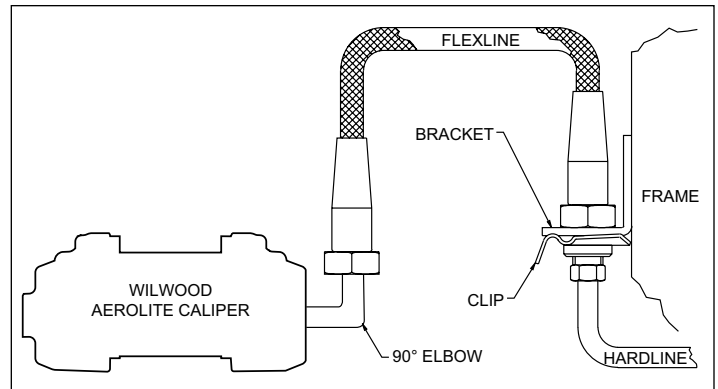

Figure 4. Brake Line Diagram
- **NOTE:** The caliper in this brake kit utilizes a 1/8-27 NPT pipe thread inlet. OEM rubber brake hoses generally cannot be adapted to Wilwood calipers. Install Wilwood's stainless steel braided flexline hose kit, part number 220-8173 for C5, 220-9101 for C6 (both sold separately), as shown in Figure 4 (use PTFE tape on pipe threads of adapter fitting for proper sealing to caliper). **NOTE:** The specified Wilwood hose kits may not work on all Years, Makes, or Models of the vehicle that this brake kit is applicable to, due to possible OEM manufacturing changes during the vehicle's production life. **Carefully route hoses to prevent contact with moving suspension, brake, and wheel components.** It is the installer's responsibility to ensure that all fittings and hoses are the correct size and length, that they are properly sealed, and that they will not be subjected to crimping, strain, or abrasion from vibration or interference with suspension, brake, or wheel components.